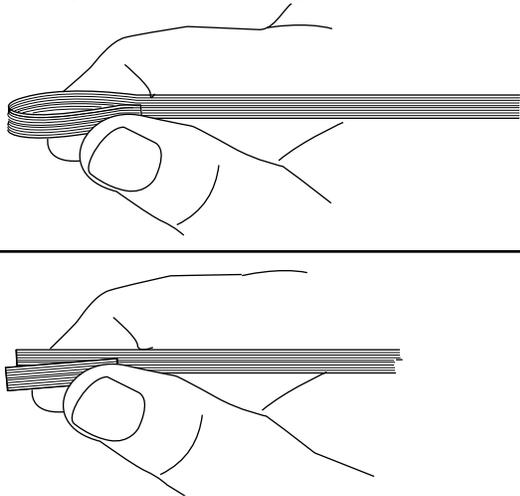

Figure 41
- a) Snap the end of the ribbon, bending the ribbon flat against itself to get a clean break (Figure 41).